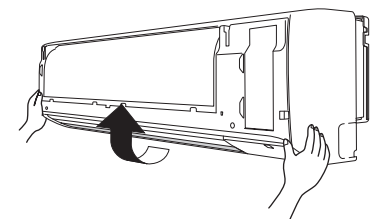

Fig. 3-16
- (6) Lift up the grille in the direction shown by the arrow and pull the grille towards you to remove it. (Fig. 3-16)